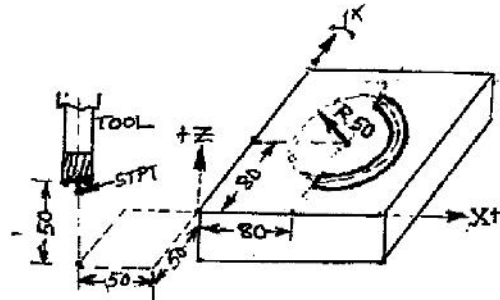

Fig. 2
11. Write a manual part program to machine a semicircular slot as shown in fig. 2 in a CNC milling machine using an end mill cutter. 10